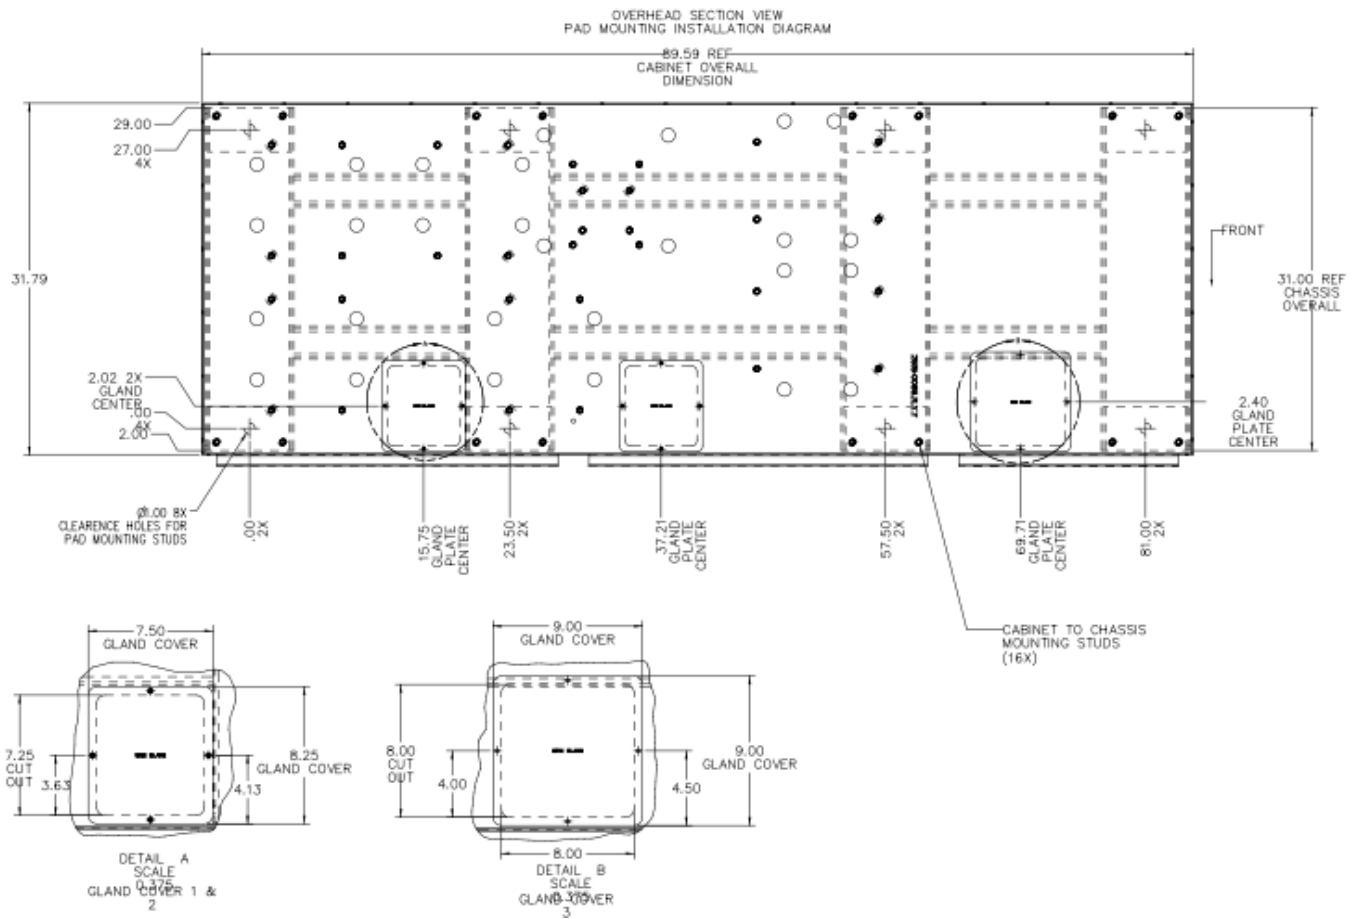

Figure 2-6: Pad Mounting and Conduit Hole Locations, Access through bottom floor, Top View
7. Correct mounting position for the inverter is vertical with the mounting feet on the floor. The enclosure must be bolted to a concrete pad to prevent the possibility of tipping. See Figure 2-6 for mounting locations and more access.